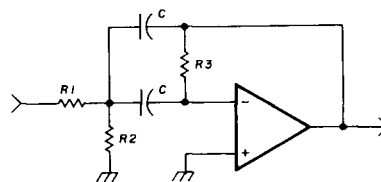

fig. 9. Schematic showing the MFB, or multiple-feedback circuit.
**Multiple-feedback circuit.** Now that you know what the stages must do, the only thing remaining is to design circuits with the required  $f_n$ ,  $Q$ , and  $G$ . For stages with low  $Q$  (less than 10), the multiple feedback (MFB) circuit in fig. 9 performs well. Almost any op amp will work here, but depending on its bandwidth, limitations exist on maximum  $Q$  and maximum  $f_n$ .